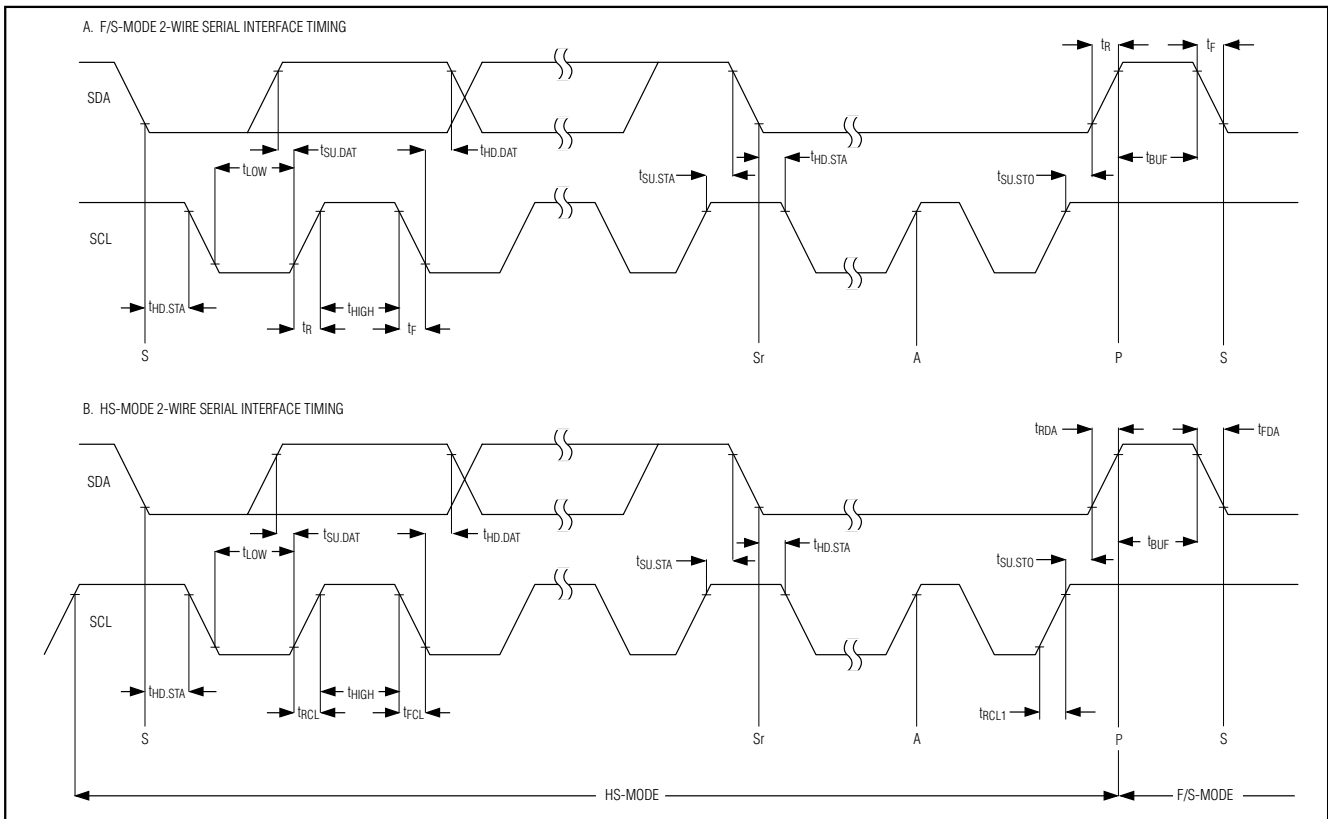

Figure 1. 2-Wire Serial Interface Timing
### TIMING CHARACTERISTICS (Figure 1)
## TIMING CHARACTERISTICS (Figure 1) (continued)
**Note 10:** A master device must provide a data hold time for SDA (referred to VIL of SCL) in order to bridge the undefined region of SCL's falling edge (see Figure 1).
up to 22.2ksps. The MAX1136–MAX1139 must operate in high-speed mode (HS-mode) to achieve conversion rates up to 94.4ksps. Figure 1 shows the bus timing for the MAX1136–MAX1139's 2-wire interface.